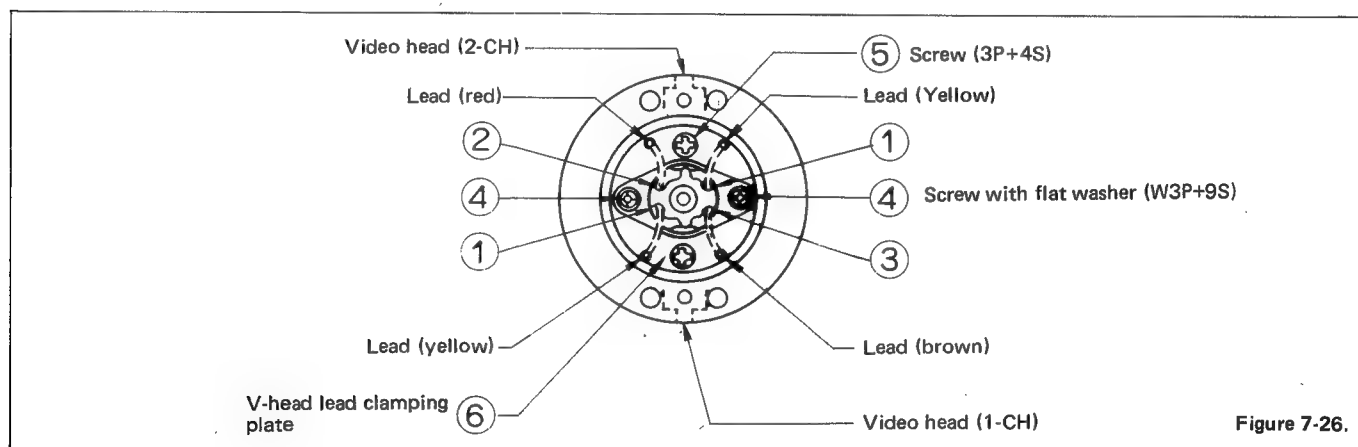

Figure 7-26.
- 1) Install the replacing drum as shown in Figure 7-26 and direct it so that the leads of specific colors come just as illustrated.